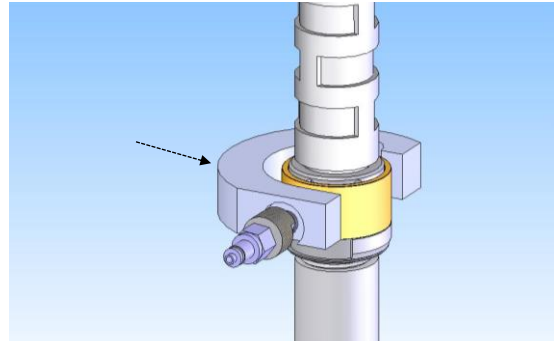

Figure 4: Position the injection adapter over the sleeve.
- c. Slide the injection adapter over the threaded end seal and position the injector assembly in the vicinity of the injection hole (Figure 4).